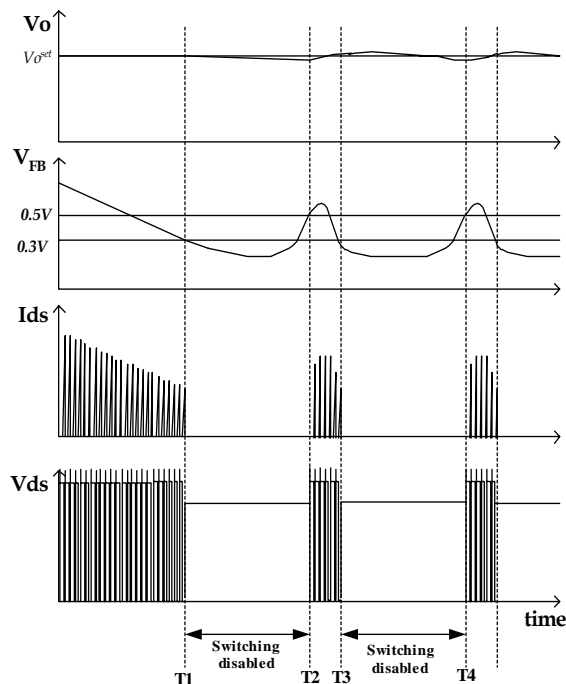

Figure 22. Waveforms of Burst Operation
**6. Burst Operation:** To minimize power dissipation in standby mode, the FSCM0765R enters into burst mode operation at light load condition. As the load decreases, the feedback voltage decreases. As shown in Figure 22, the device automatically enters into burst mode when the